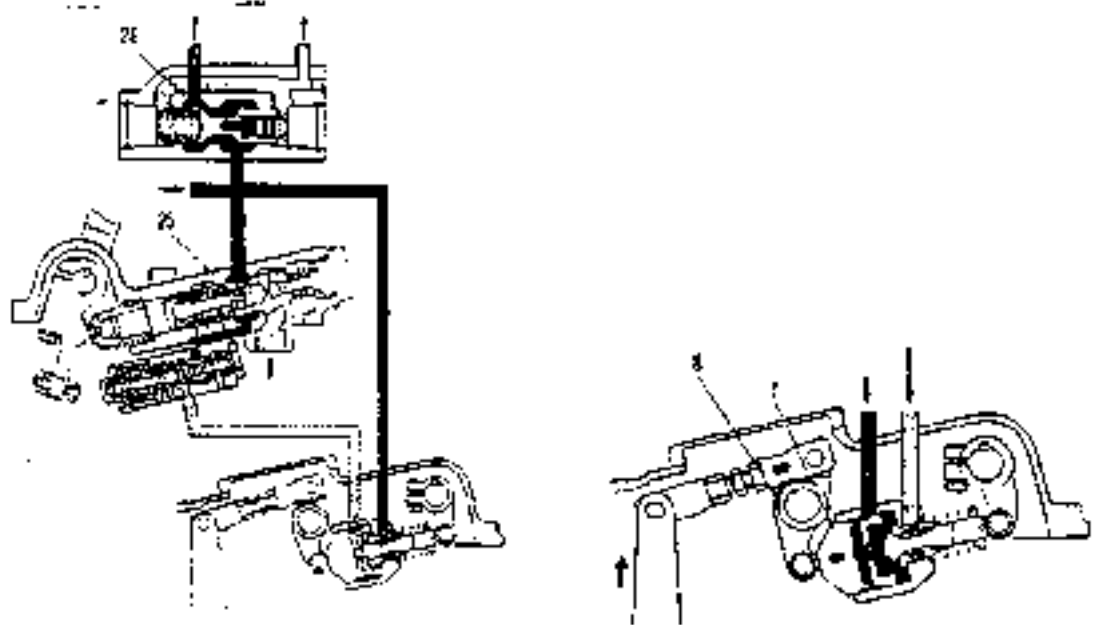

Fig. 2-77
When brake is released, there are two oil lines which flow from steering pump. One oil line flows from the steering pump to port A and another oil line flows directly to port B through steering valve. Because the steering lever is not pulled, so interlock control valve does not move. The passage to port A is also closed, so the oil only flows to port B, then through orifice "a" flows to port C. However, the brake pedal is not being depressed, so the passage between port C and port D is shut off. As a result, the oil pressure rises and when it exceeds the setting pressure of the main regulator valve (26), the oil flows to the torque converter. At this time, the normal oil pressure valve in the circuit is 2.16MPa, as shown in Fig. 2-77.